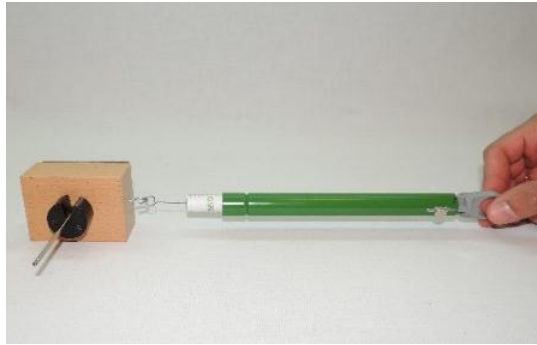

Figure 4.10: frictional force of the side face of the block.
- 3- Add 50 gm slotted mass (2) to the holding pin.
- 6- Use the values of the maximum static frictional force and the kinetic frictional force to calculate the frictional coefficients in this case as done in Task (1).
- 7- Repeat the last steps, but with the small side wood face touching the drawing paper with the rough surface as shown in Figure 4.10.